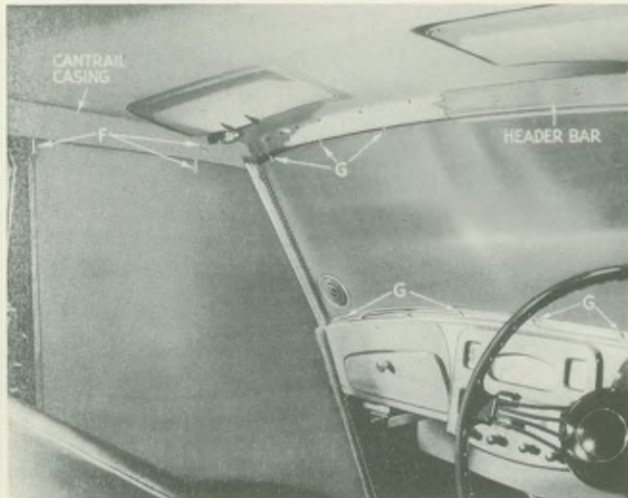

Fig. 24. Showing parts to be dismantled when removing the windscreen
4. Remove the front three screws (marked 'F' in Fig. 24) from one cantrail trimmed casing and spring it out slightly to enable the trimmed header bar to be released after its screws have been removed.
5. Remove all retaining screws from around windscreen frame (some shown at 'G' in Fig. 24).